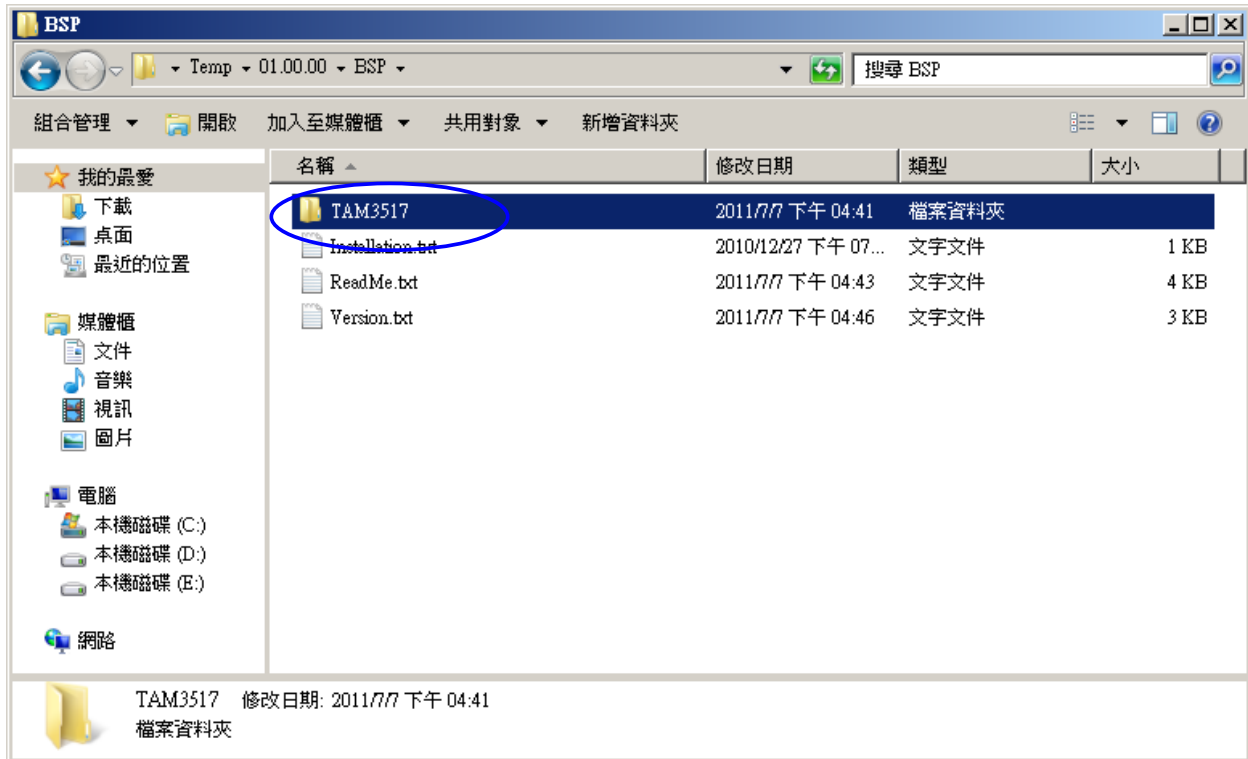
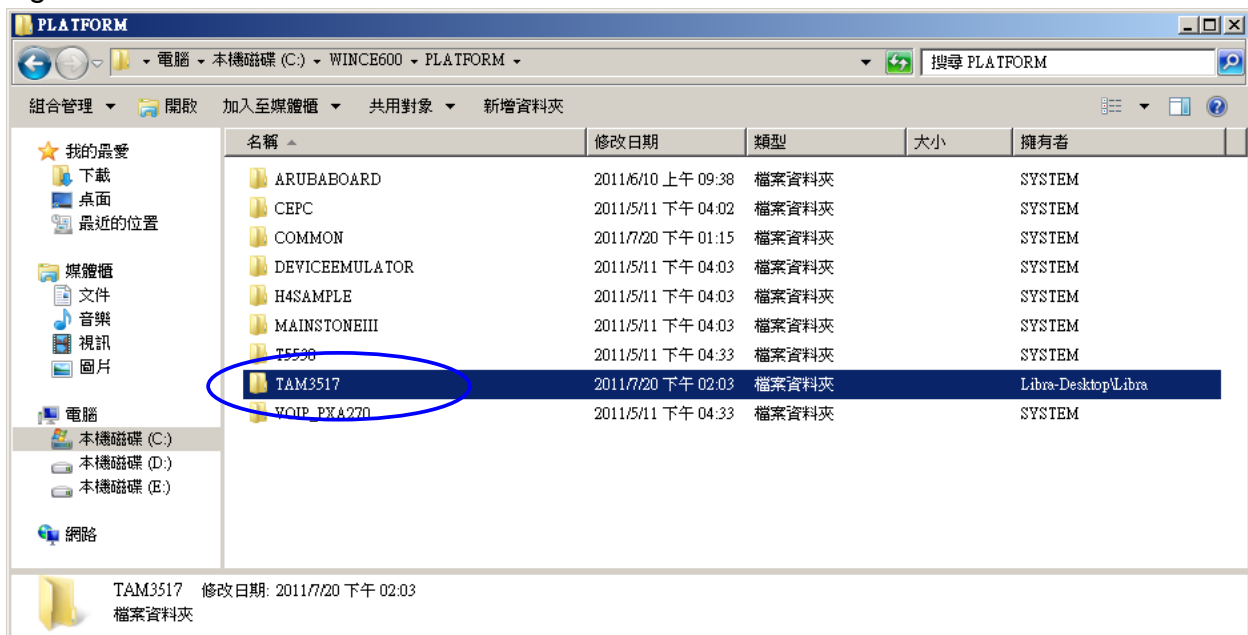

Figure 2
Figure 3
- After entering the “01.00.00\BSP” (version number) folder, copy the “TAM3517” folder to “C:\WINCE600\PLATFORM\”. (See figure 2 and figure 3)